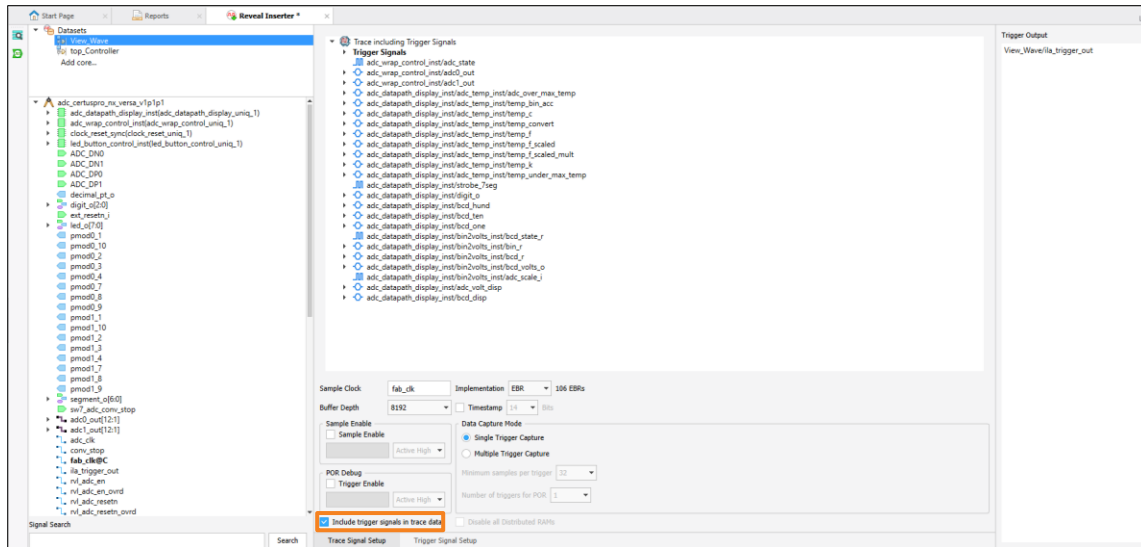

Figure 7.15. Logic Analyzer Appearance after Adding Trace Signals
9. Once the trigger signals are added, switch to the **Trace Signal Setup** tab and add trace signals. These trace signals cannot be used as part of the trigger expression, but they are displayed in the captured waveform. Check the checkbox for **Include trigger signals to trace data** (Figure 7.15).